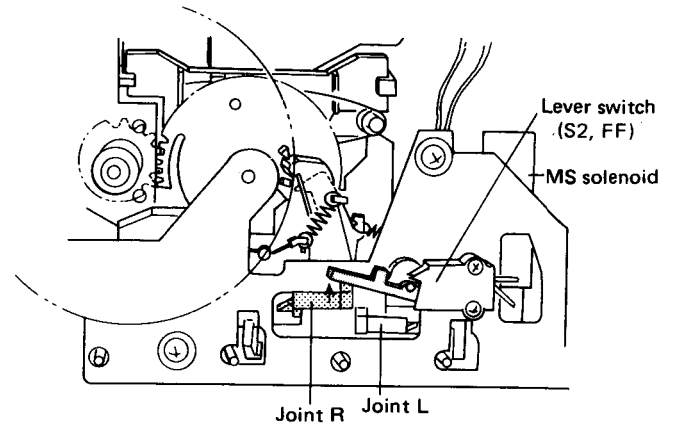

Fig. 13-9 FF (REW), MS operation 1 (Lever switch ON)
**FF (or REW) Operations (Fig. 13-9 – 13-11)**
1. When the FF (or REW) button is pressed, joint R (L) moves in the direction of ①, pressing down (① direction) on the FF (REW) action plate. At the same time, the lever switch is thrown to the ON position (Fig. 13-9, 13-10).
2. Next, the brake-plate is pressed down by the FF (REW) action plate, and at this time the driving arm is forced in the ③ (or ④) direction to start the reel base rotating in the FF (or REW) mode.
3. At the same time, gear lever C moves in the ⑤ direction and the head base (HB) lock lever moves in the ⑥ (or ⑦) direction. (This procedure also applies to MS operations).